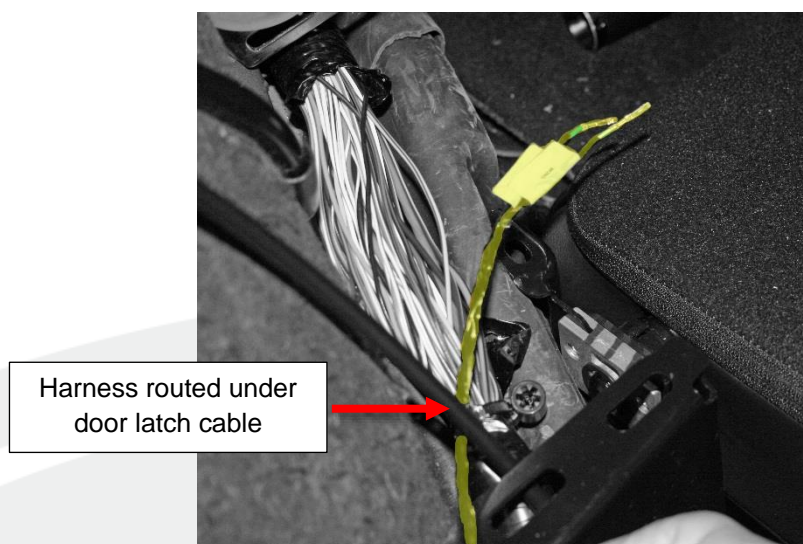

Figure 15 (TPMS harness highlighted)
13. Route the 2 CAN wires on the TPMS harness under the door latch cable and pull them toward the rear of the vehicle (Figure 15).